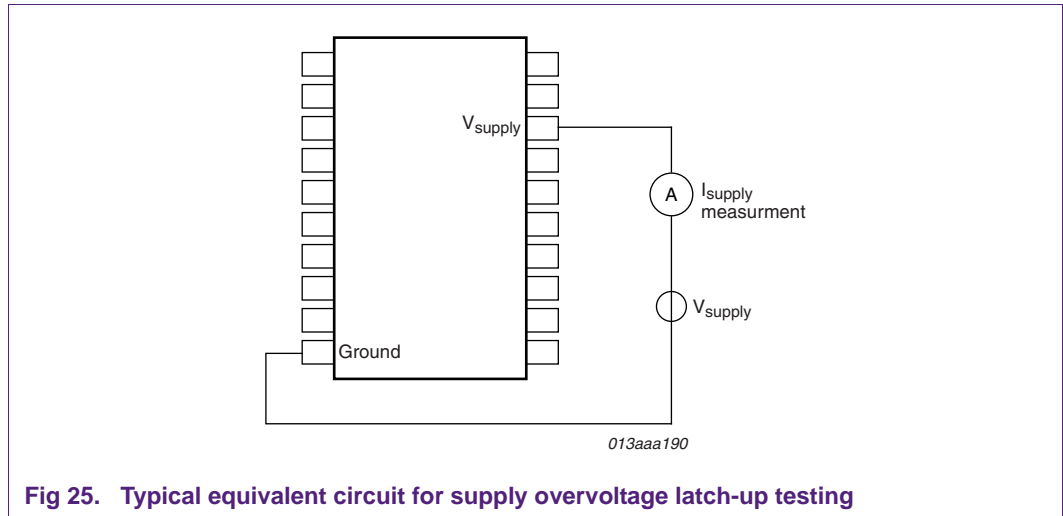

Fig 25. Typical equivalent circuit for supply overvoltage latch-up testing
- Power supply pin overvoltage test (see testing circuit in Figure 25) where overvoltage pulses are supplied to the supply pin under test